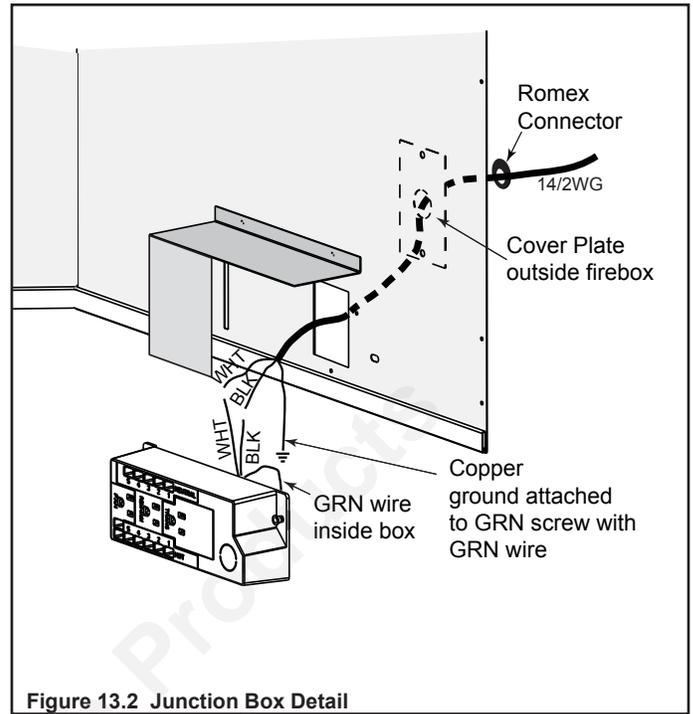

Figure 13.2 Junction Box Detail
- Remove the cover plate located on the outer shell - right side (see Figure 13.2).
- Remove the screw attaching the junction box/receptacle to the outer shell, rotate the junction box inward to disengage it from the outer shell (see Figure 13.2).